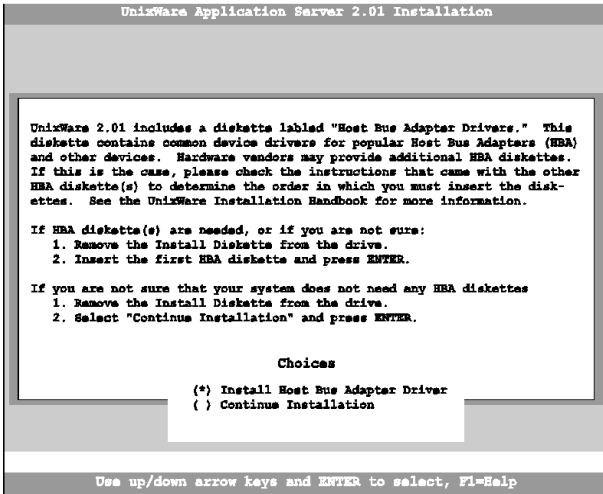

figure 11-2 Install Host Bus Adapter Drivers
2. When prompted to **INSTALL HOST BUS ADAPTER DRIVERS** (see figure 11-2), insert the “INITIO INI-9100U/9100UW DRIVER DISK 2” into drive A: press <Enter>.